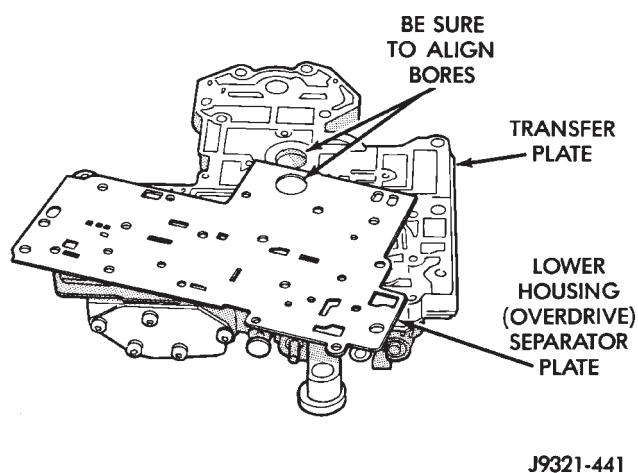

Fig. 73 Lower Housing Separator Plate
(4) Position lower housing separator plate on transfer plate (Fig. 73).